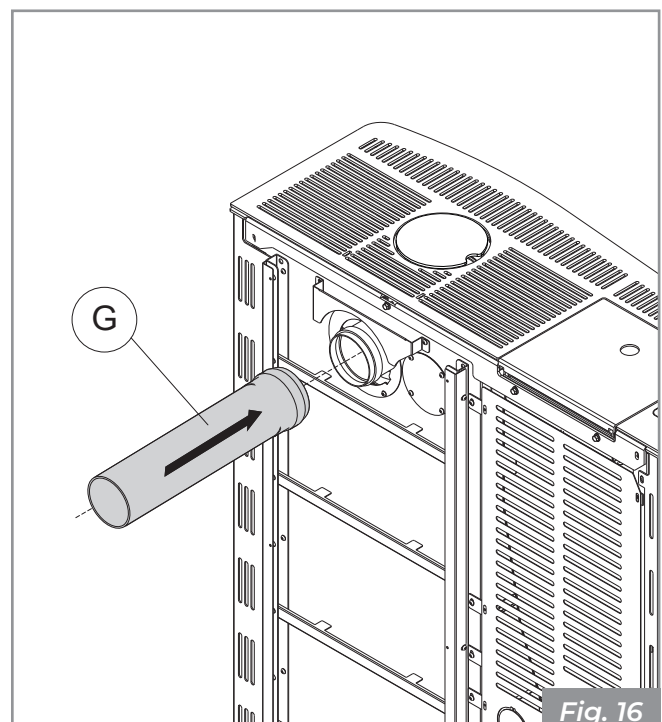

Fig. 16
- Fit the smoke cap (C) on the upper side of the stove in place of the previous position of the upper smoke collar (D).
- Close the upper hole by joining the aesthetic cap (F) to the support ring (E) using the 6 nuts supplied. Align the assembly with the top by adjusting the nuts.
- Fit the upper flue collar (D) on the rear side of the stove in place of the previous position of the flue cap (C).
- Remove the pre-cut from the rear inspection cap (B) and mount the component in its previous seat.
- IT IS possible to connect the flue pipe (G) to the collar (D) (Fig. 16).